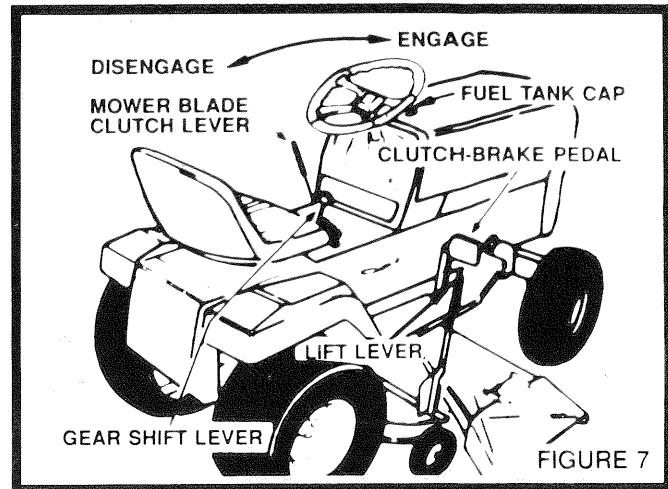
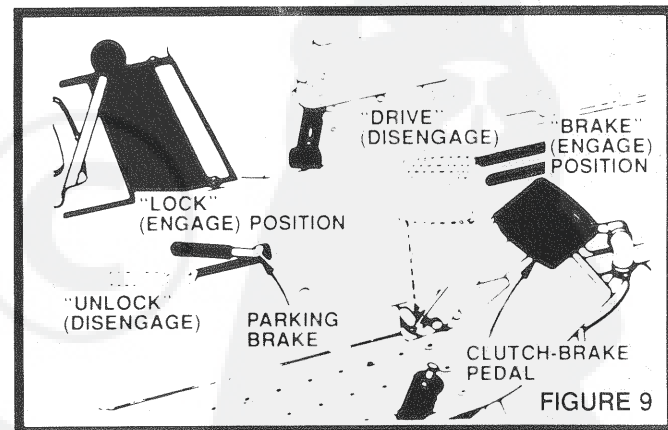

FIGURE 7
FIGURE 9
2. Fill Fuel Tank (Fig. 7). Use fresh, clean, regular unleaded automotive gasoline. (Use of leaded gasoline will increase carbon and lead oxide deposits and reduce valve life.) Capacity is 3,8 Litres (1 U.S. Gallon).
THIS TRACTOR IS EQUIPPED WITH INTERLOCK SWITCHES TO PREVENT STARTING OF TRACTOR ENGINE WHILE THE MOWER BLADE CLUTCH IS IN THE "ENGAGED" POSITION (FIG. 7), THE GEAR SHIFT LEVER IS IN GEAR, AND/OR THE CLUTCH BRAKE PEDAL IS NOT DEPRESSED (FIG. 9). IMMEDIATELY REPLACE SWITCHES THAT ARE NOT IN PROPER WORKING ORDER. DO NOT ATTEMPT TO DEFEAT THE PURPOSE OF THESE SWITCHES.
1. Disengage Mower Blade Clutch Lever (Fig. 7).
2. Push Clutch-Brake Pedal fully into brake position and "LOCK" (Engage) Parking Brake (Fig. 9).
2. Push Clutch-Brake Pedal down firmly, in Brake position and "UNLOCK" (Disengage) Parking Brake (Fig. 9).